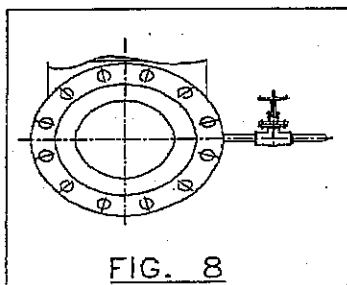

FIG. 8
- *Figure 8* ► it represents a by-pass.
In the case of figures 8 and 10 the gate valve is bi-directional (see page 3 of 13).